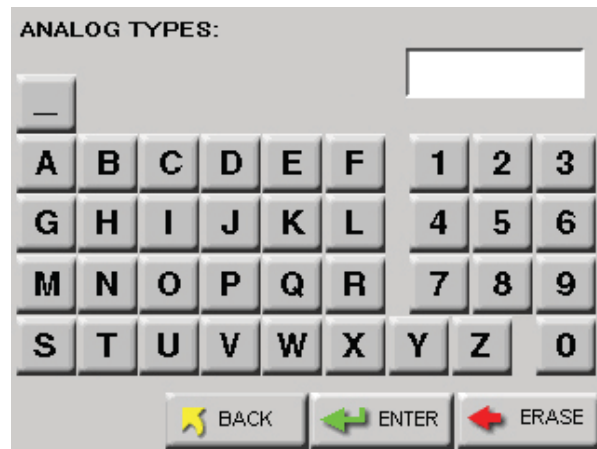

Figure 4-3 Analog Type Edit Screen
5. Press the blank TYPE button next to the enabled analog channel to enter the label tag. See Figure 4-3.